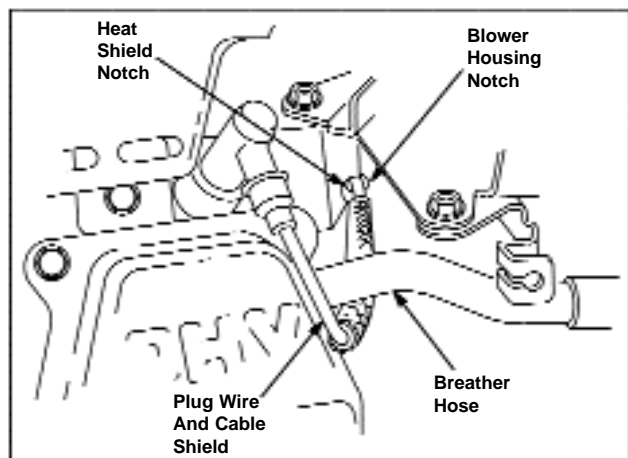

Figure 70 - Wire Routing, Typical
- Route spark plug wire through notch in heat shield and notch in blower housing, Figure 70.